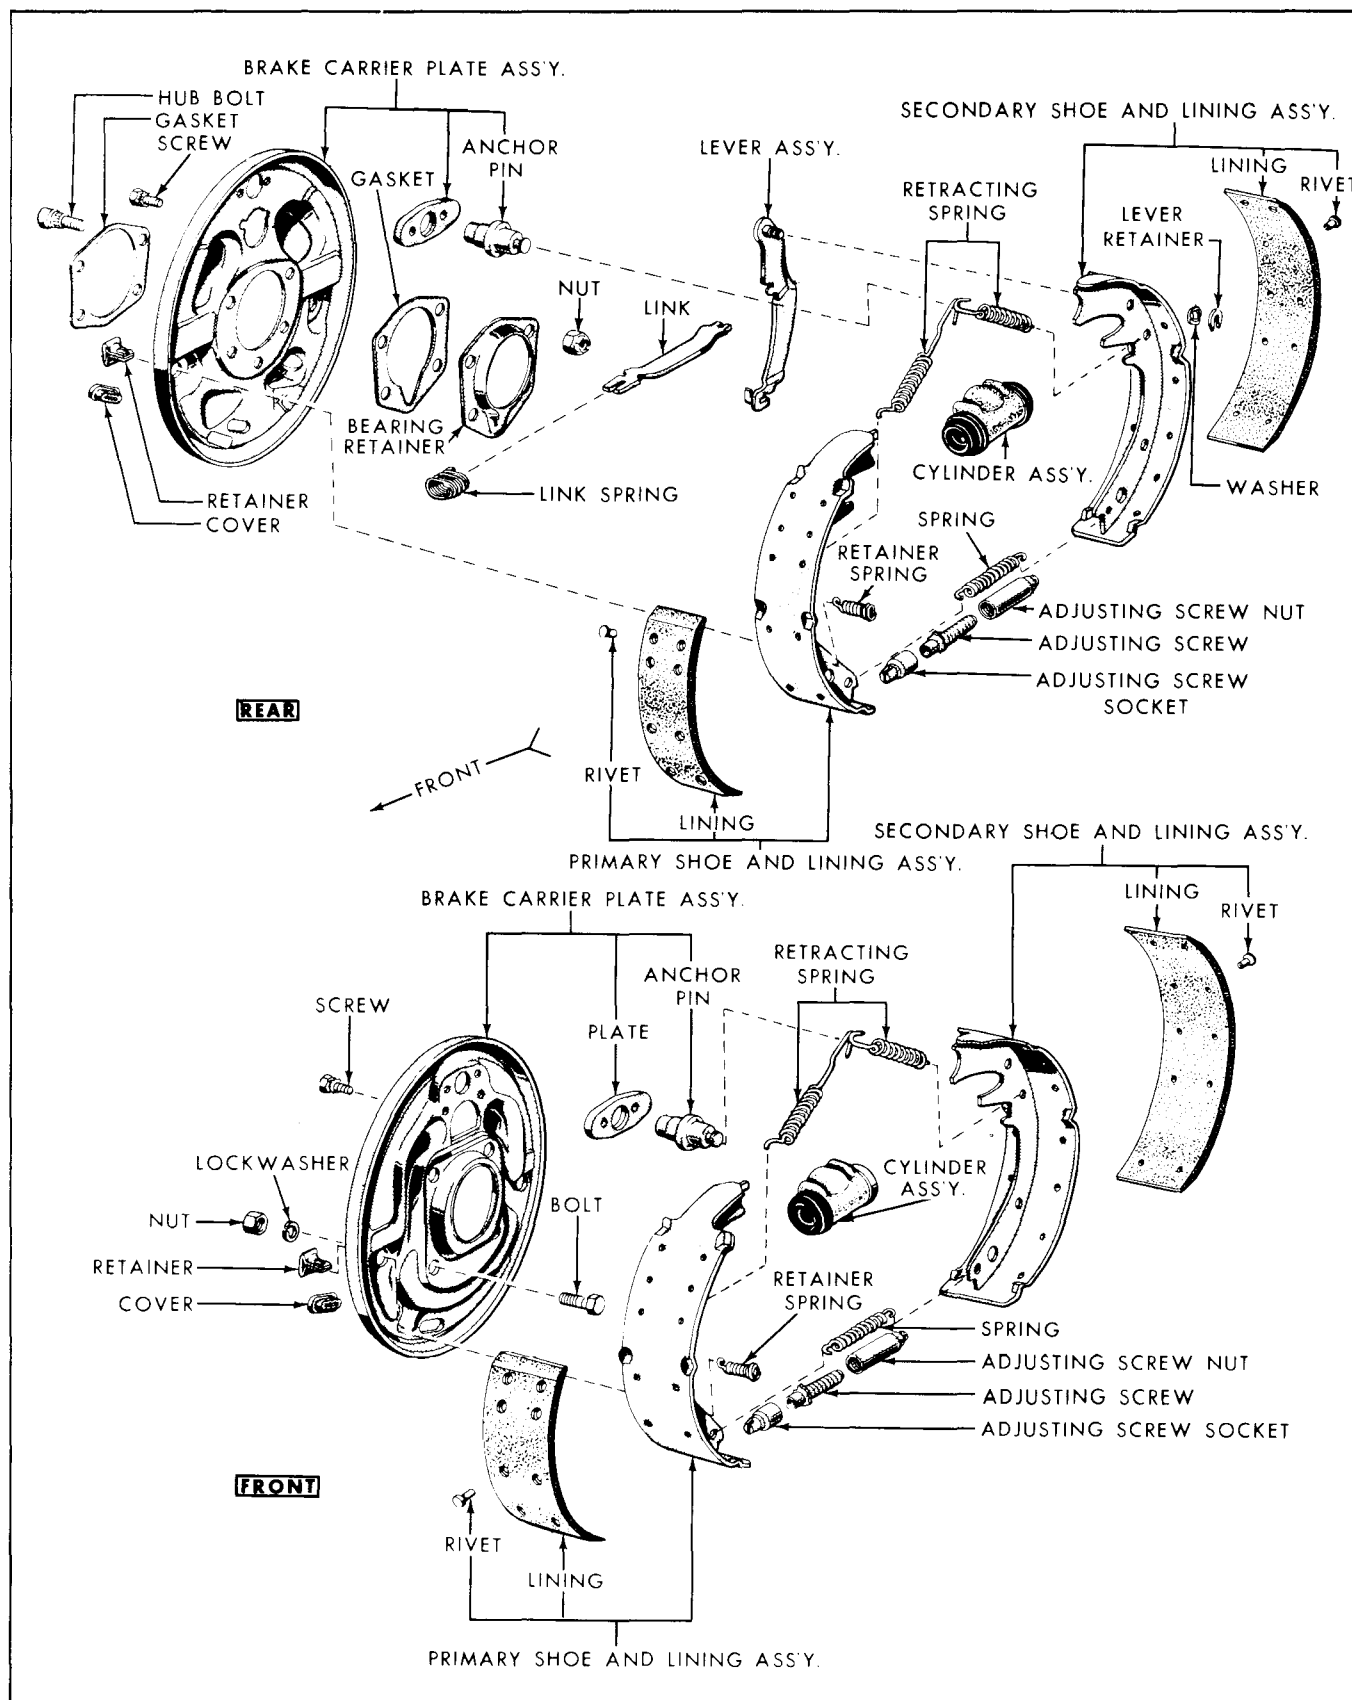

Fig. 2-9—Front and Rear Brakes—Disassembled—(60C-2009)
2. Disconnect the brake shoe retracting springs and hold down springs. See figures 2-9 and 2-10.
2. Position the brake shoes so that the secondary shoe will be at the rear when placed in its proper position against the carrier plate. See figure 2-9.